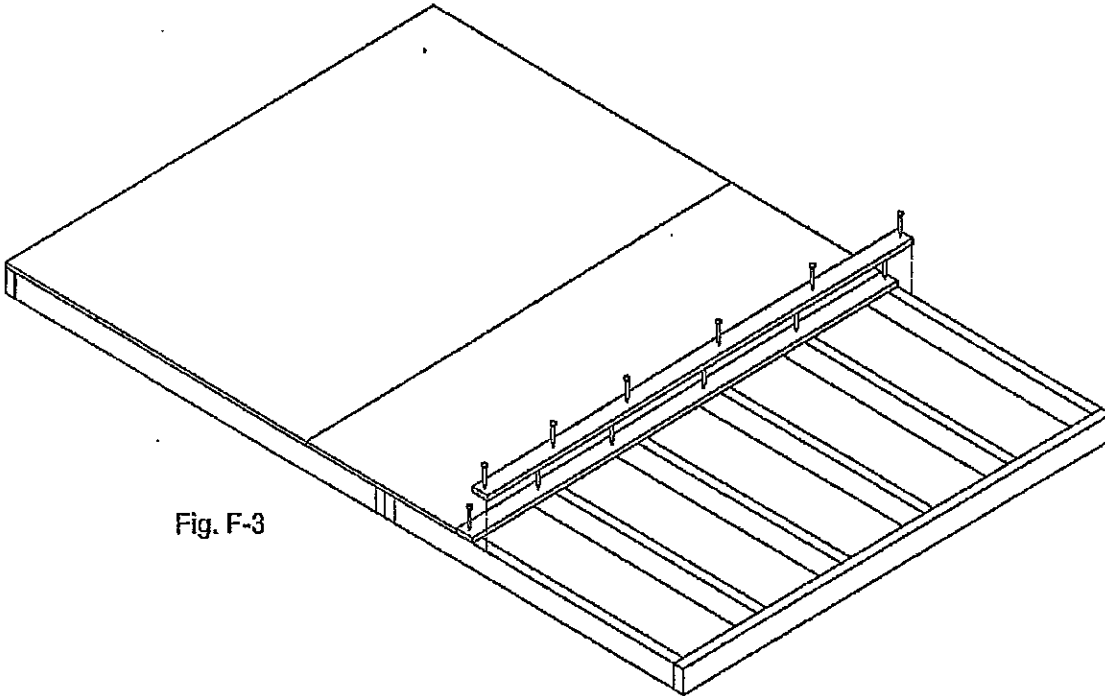

Fig. F-3
4. Once the plywood sheets have been attached, then lay the 69" deck boards over top of the remaining exposed joist members. The number of pieces will depend on the width of each deck board. The table below outlines the number of deck pieces by board width. Use 2-2" nails to affix the ends of each board and use 1-2" nails to affix the deck boards to the interior joist members. Refer to Fig. F-3 for details. Fig. F-4 shows the finished floor structure.